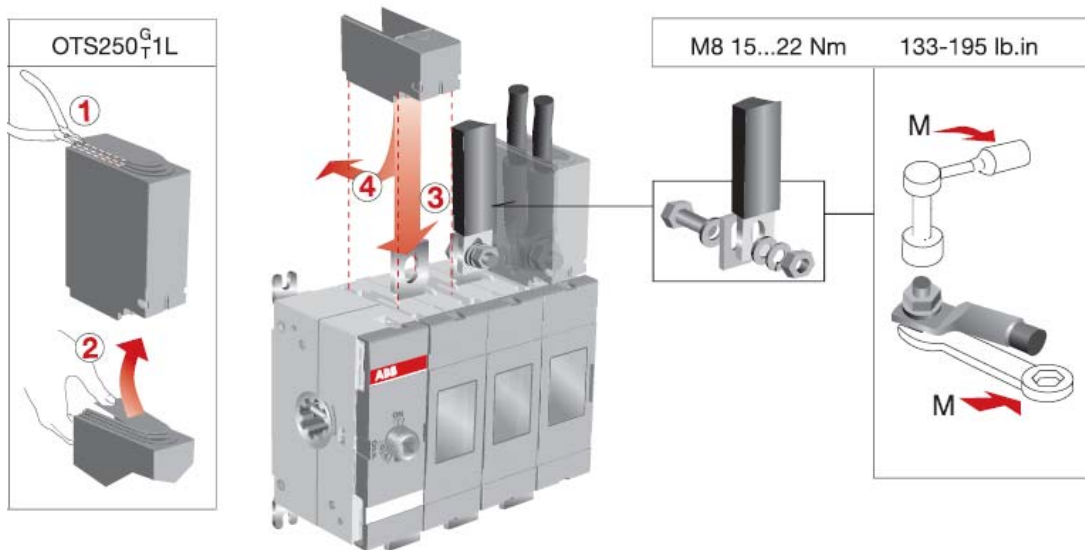
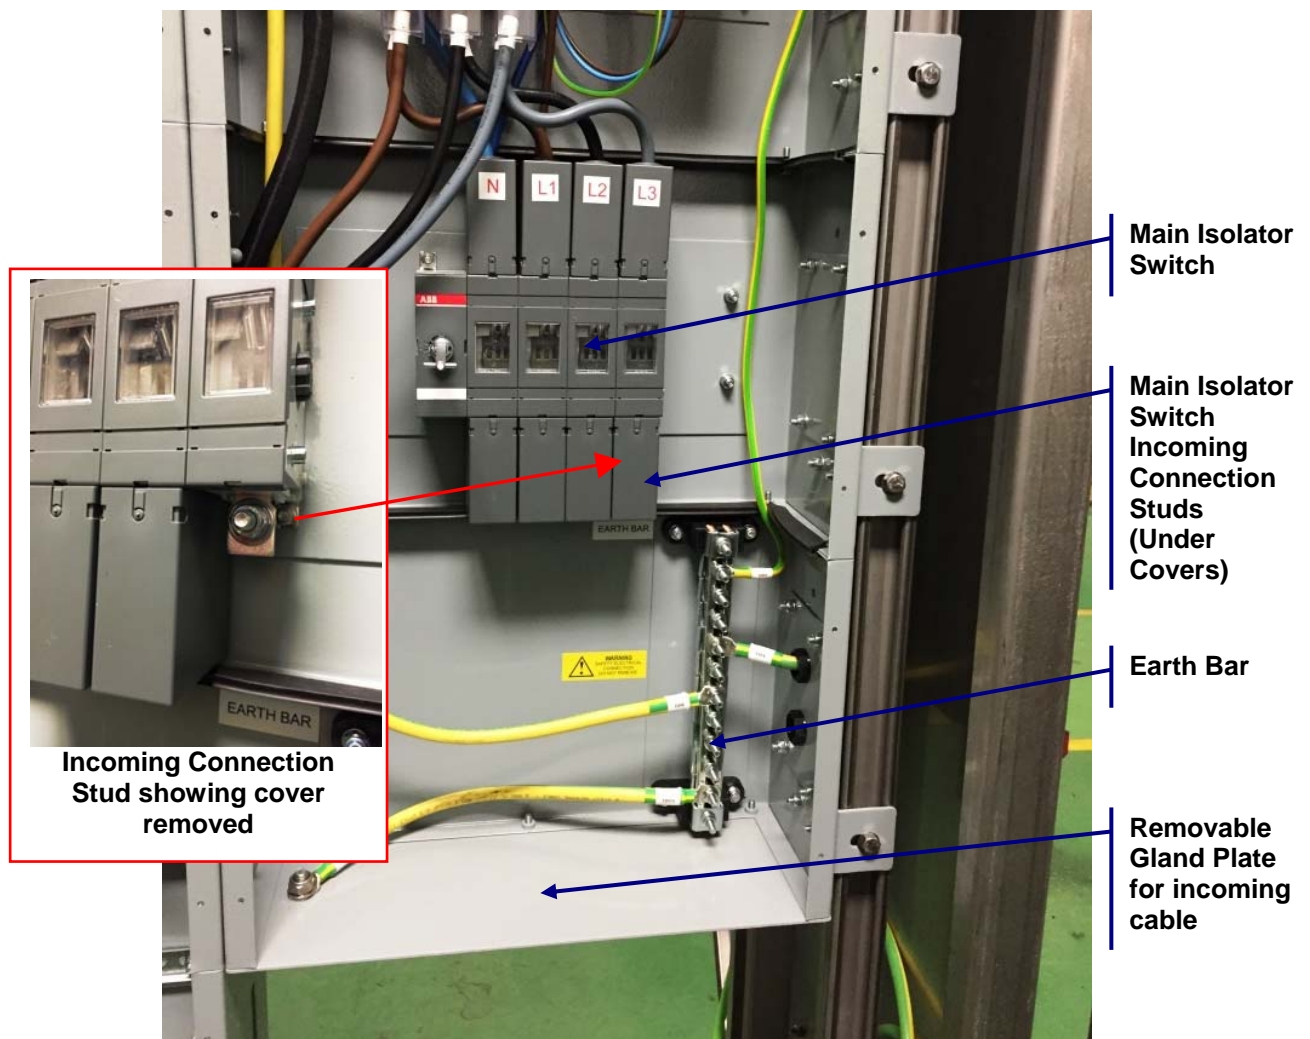

Figure 4: Connections to Main Isolator
Figure 5: Detail for Incoming Cable Connection
For the following steps refer to Figure 4 and Figure 5 in this manual:
8. Install cable lugs onto terminals, fit washers/nuts & tighten – see Figure 4.